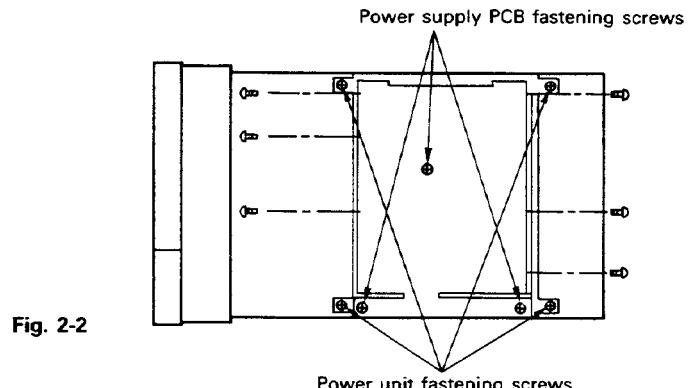

Fig. 2-2
Raise the front panel slightly and push it away to remove the front panel (Fig. 2-2).
1. As shown in Fig. 2-2, remove four screws fastening the power supply unit. Also remove three grounding wires fastened by the fastening screws.